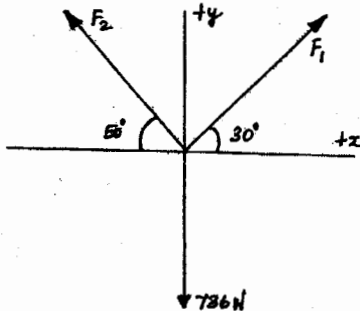

Fig 1
- b) A Particle is in equilibrium under the influence of forces as shown in Fig 1. Find the unknown forces using the Lami's theorem.